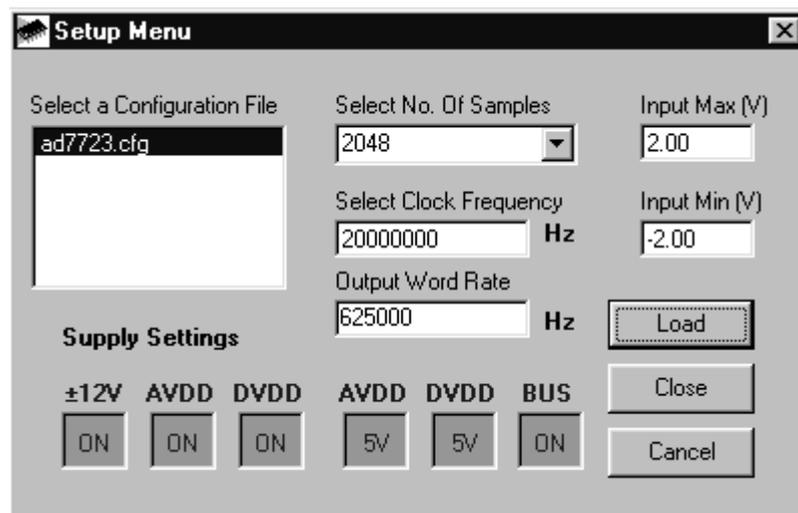

Figure 5: Setup Screen
The Setup Screen is responsible for allowing the user to load a configuration file for the evaluation board. The configuration file will give the software detailed information about the evaluation board and the part connected to the Eval-Control Board such as number of bits, maximum sampling rate, power supply requirements, etc. The configuration file also tells the software the name of the DSP program file which it should download to the Eval-Control Board. These files are supplied by Analog Devices with the evaluation board. Figure 5 shows the setup screen. For the AD7723 evaluation board, the configuration file is called ad7723.cfg.
**Setup Menu:** Selecting this option displays the Setup Screen as shown in Figure 5.